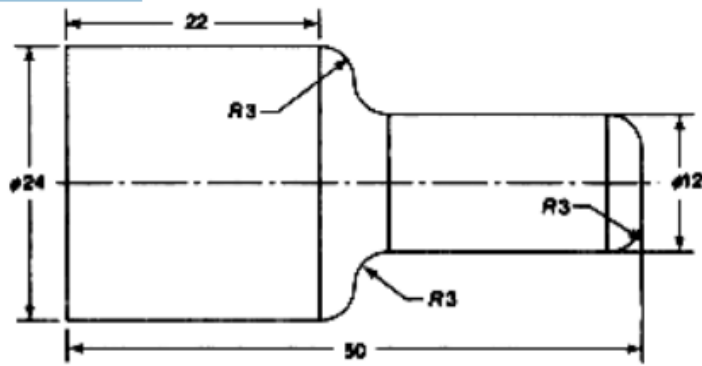

Figure 1
- (b) Develop an NC part program for the part shown in Figure 1. All the dimensions are in mm.